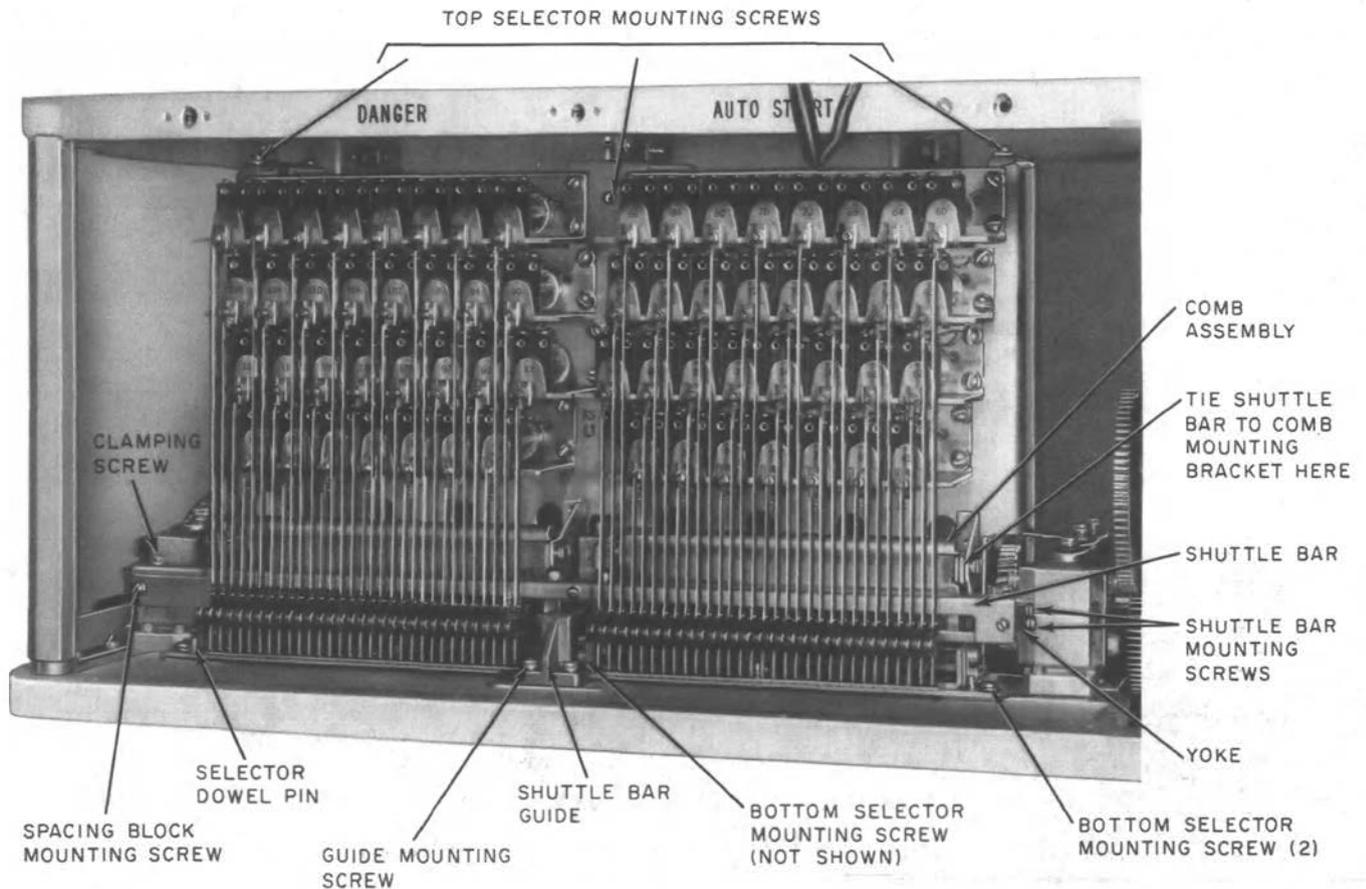

Fig. 50—KS-13903 Selector and Associated Parts
Removing Selectors (Fig. 50)
- (3) Remove the clutch drive and cam switch assemblies in accordance with 3.23 and 3.36, respectively.
- (4) Remove the motor belt in accordance with 3.10.
- (5) Remove the connector coverplate using the 3-inch C screwdriver.
- (6) Remove the mounting screws of all connectors using the 3-inch C screwdriver.
- (7) Manually rotate the shafts to move the shuttle bars to their extreme *in* position.
- (8) See Fig. 50 for orientation of the shuttle bar guide.
- (9) Remove the shuttle bar guide using a hex socket screw wrench, and take care not to lose the shim, if provided, on which the guide is mounted.
- (10) In accordance with instructions in the callout of Fig. 50 securely tie each end of the shuttle bar to the comb mounting bracket using No. 6 waxed twine to prevent the interposer from disengaging the outer comb when the shuttle bar is disconnected.
- (11) Remove the two shuttle bar mounting screws and lockwashers at each of the bar.
- (12) Remove the three bottom and three top selector mounting screws and washers using the 565A offset screwdriver.